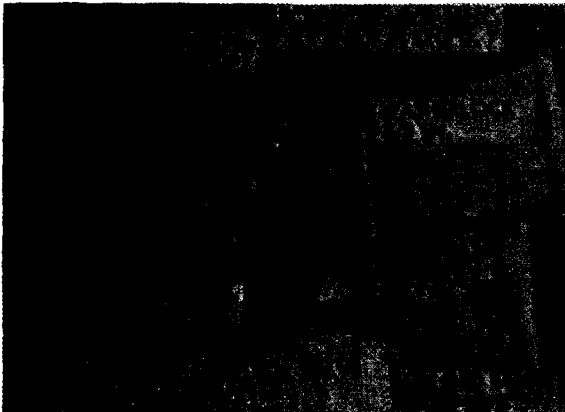

Figure 73. Removal of control valve adapter assembly.
- (2) *Remove control valve adapter assembly.*
- (a) Remove the eight capscrews, and lockwashers securing control valve adapter body (fig. 73) to the control valve.
- (3) Install control valve adapter assembly. Position new gasket on control valve adapter body (fig. 73) and install the adapter body to the control valve assembly, using eight cap screws, and eight lockwashers.
- (4) Install hoist hydraulic pump assembly.